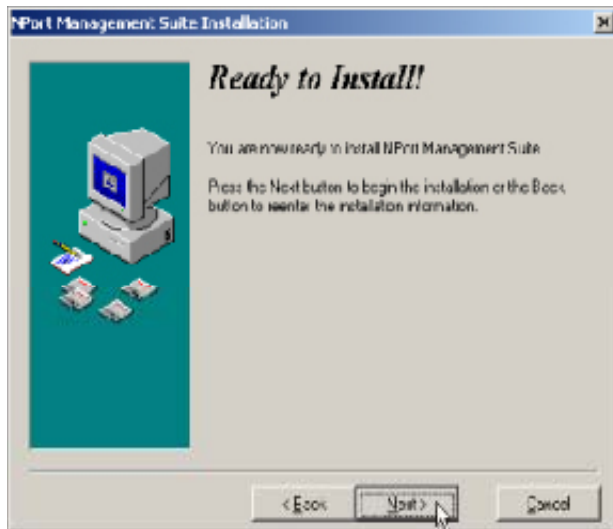

Figure 2-27
8. The **Ready to Install** window opens. **Figure 2-27**.